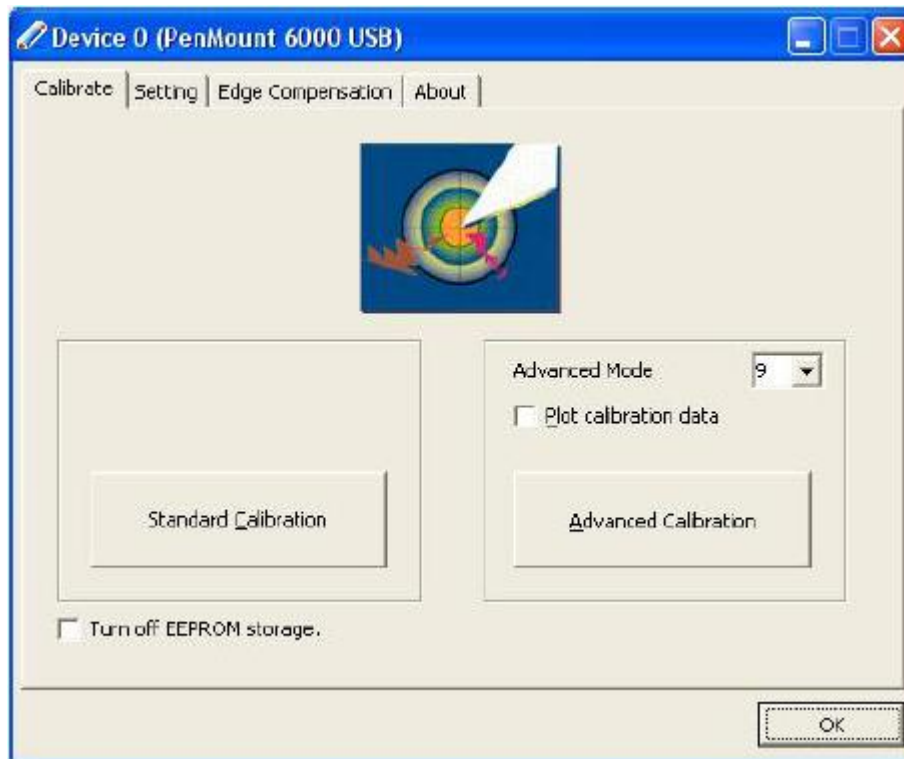

Figure 4-10: Calibration Initiation Screen
Step 8: The calibration initiation screen in **Figure 4-10** appears.
Step 9: Select the Standard Calibration button as shown in **Figure 4-10**.